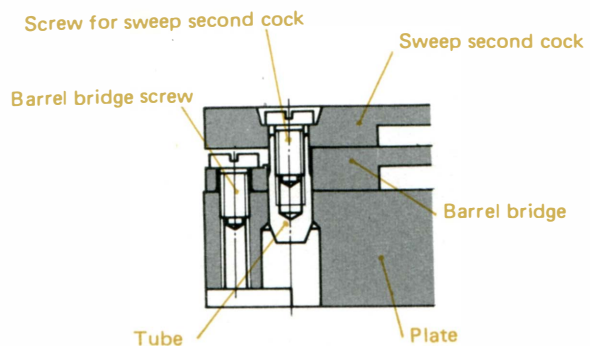

Fig. 6
## (4) Bridges and cocks (Fig. 6)